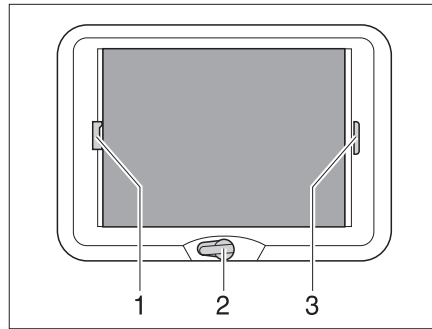

Fig. 90 Wind-up skylight
- Rotate the hand crank (Fig. 90,2) until a resistance can be felt (max. opening angle 70°).
- Pull the handle of the Roman shade (Fig. 90,3) and release in the desired position. The Roman shade will stay in that position.
- Pull insect screen at the handle (Fig. 90,1) to the opposite handle of the Roman shade (Fig. 90,3) and allow to engage.
- Press the handle of the insect screen (Fig. 90,1) at the back upwards and detach the insect screen from the Roman shade (Fig. 90,3).